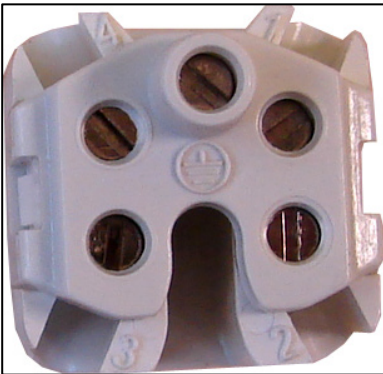
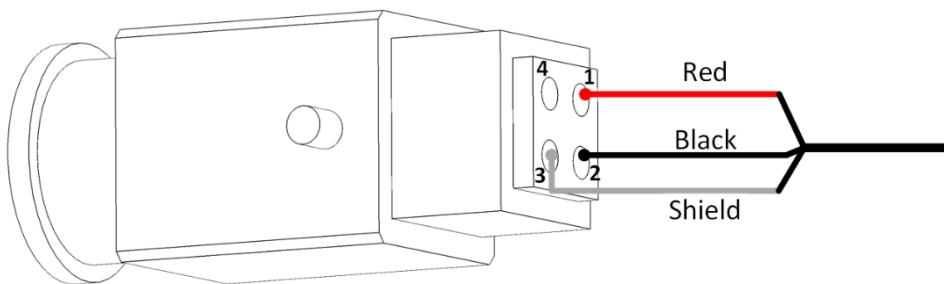

Figure 4: Connector Numbers
Figure 5: Wired Connector
5. On the top of the connector are numbers (Figure 4). Each wire must be attached to the corresponding port (Table 1). Connect the four wires to the connector Figure 5.